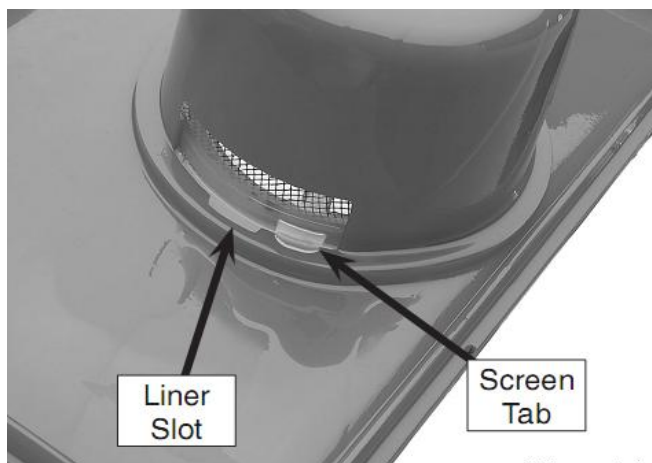

Figure14
2.3 Remove the screen from the plastic liner by rotating it to align the screen tab with the liner slot as viewed from the underside in Figure 14